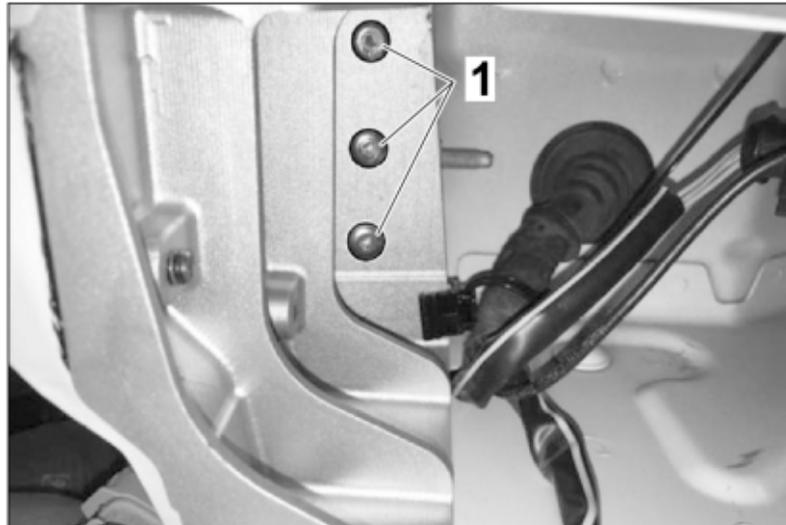

Figure 55
17. – Position the stiffener and align it with the drill holes. Finally, attach the component with the three supplied blind rivets ⇒ *Figure 55 -1-*. **Note:** A minimal lateral leakage of adhesive is desired. Note that the curing time of the adhesive is 24 hours at an ambient temperature between 15 °C and 25 °C (59 °F and 77°F). Use pneumatic rivet pliers to set the blind rivets.